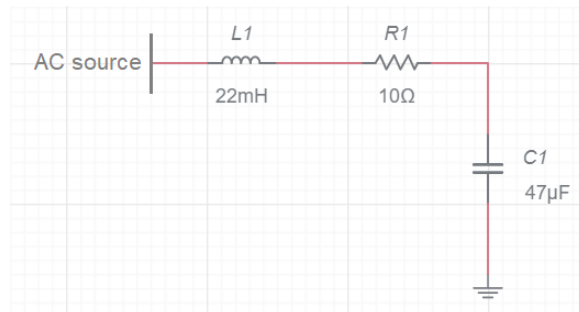

Figure 6. Calculate f_0
1. Build a circuit shown in Figure 6, which you analyzed theoretically in the exercise.